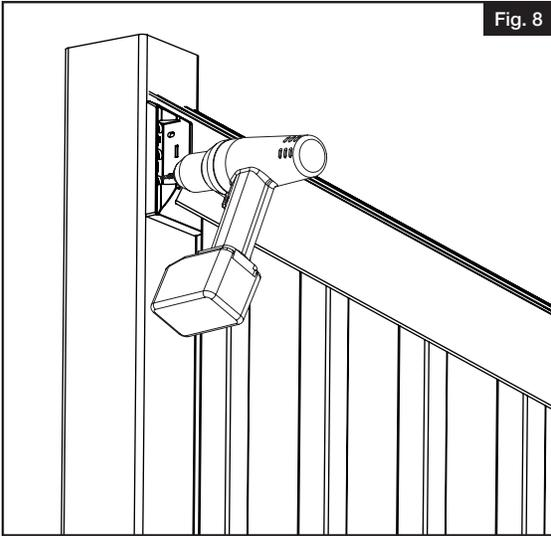

Fig. 8
- a. Make sure rails are fully seated with balusters and level and centered to post sleeve. While holding the top bracket snug to rail from underneath, and using  $\frac{1}{8}$ " drill bit, pre-drill first top bracket screw hole (Fig. 8). Drill through bracket hole, vinyl post sleeve and vinyl insert and loosely install first #10 x  $1\frac{1}{2}$ " screw.